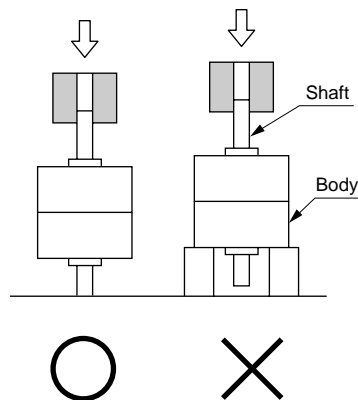

Fig.3
- When installing a load or jig, etc., on the rotary actuator shaft, check that load is not applied as shown in Fig. 3.
- (3) Turn the angle adjustment hexagon bolt, hexagon nut, and seal washer together as shown in Fig. 3, and adjust the angle. Check that the rubber section of the seal washer does not bite into the screw.